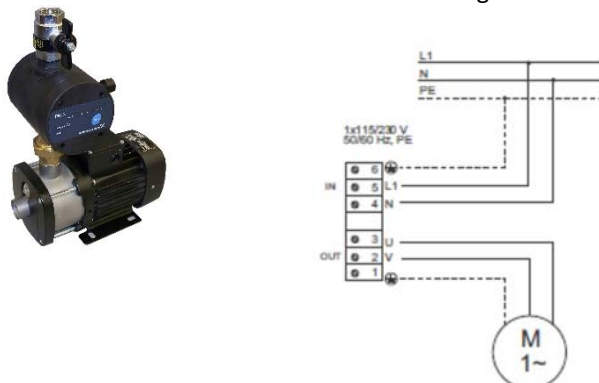

Fig. 1.5 Typical example of PM2 controller electrical connections
- 1.3.6.4 Where optional remote fault signal is required connect volt free terminal in inverter motor to remote panel. (see Fig. 1.5).
- 1.3.6.5 Low water cut out is required on models with inverter motor, wire float switch to run/stop terminals 2 & 3 in motor terminal box. Make to run, break to stop. (see Fig. 1.5)